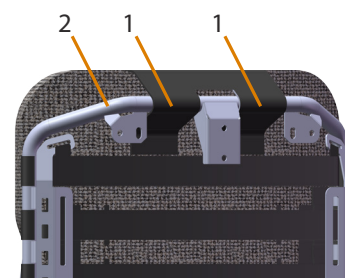

Figure 14. Straps fastened around Flexi frame
- Attach the straps (1 in Figure 14) at the top of the cushion around the Flexi back's tubes (2) with velcro as shown (If a solid back is used the velcro attaches to the back of it). Securing the cushion vertically reduces the risk of the cushion sliding down when moving in to and out of the wheelchair.